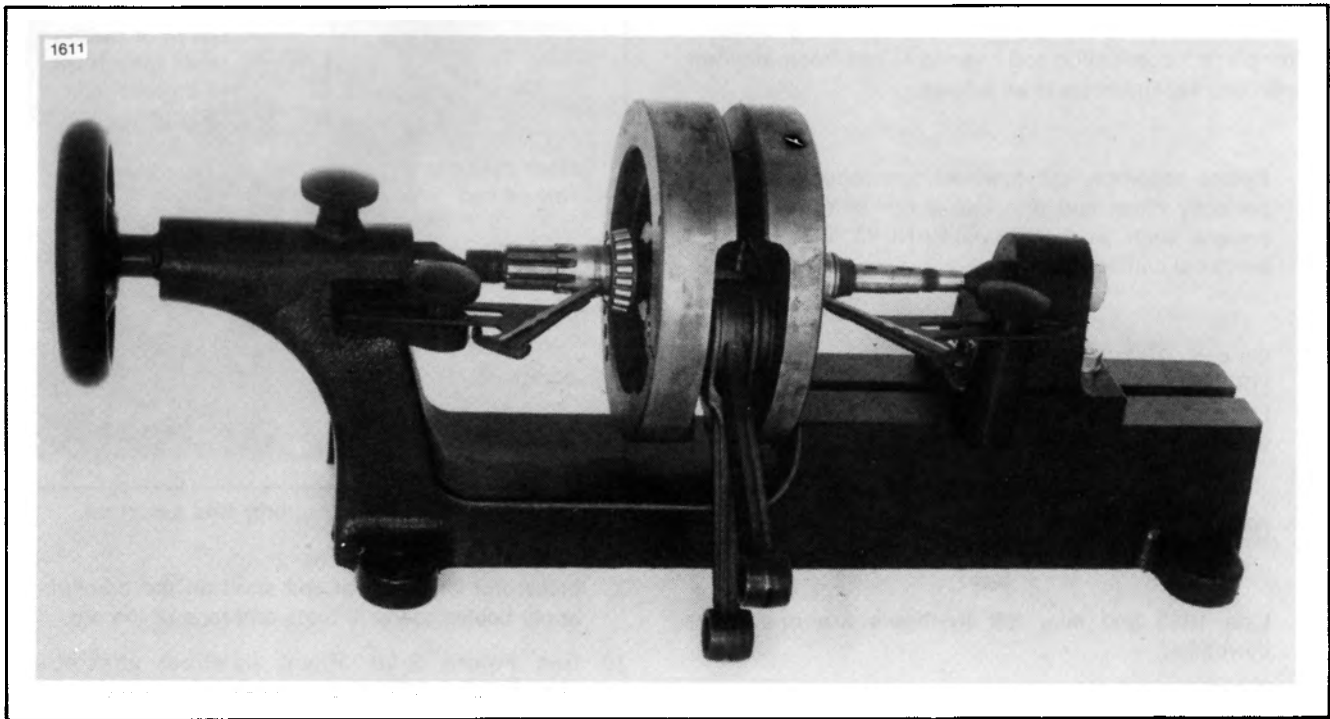

Figure 3-59. Flywheels on Truing Stand
11. See Figure 3-59. When nut is tightened to 180 ft-lb torque, install flywheel assembly in FLYWHEEL TRUING STAND, Part No. HD-96650-80. Tighten, then back off, adjusting so centers are snug but wheels rotate under weight of rods. Wheels must turn freely but shafts may not be loose in centers. If flywheel assembly is either loose or squeezed, indicators will not read accurately. Adjust indicators to take reading as near to flywheels as possible, so pointers read at about the middle of the scales.
16. See Figure 3-59. Check connecting rod side play with thickness gauge. If it is greater than tolerance shown in engine SPECIFICATIONS, tighten crank pin nuts until within, but not exceeding torque limits. Insufficient play between rods and flywheel face is caused by one of the following conditions: